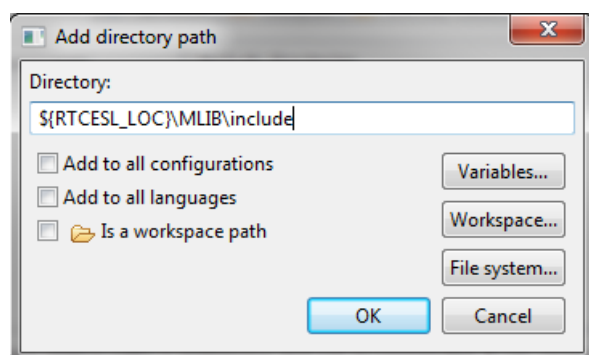

Figure 1-12. Library include path addition
16. Click the Add... button on the right, and a dialog appears. See Figure 1-12.